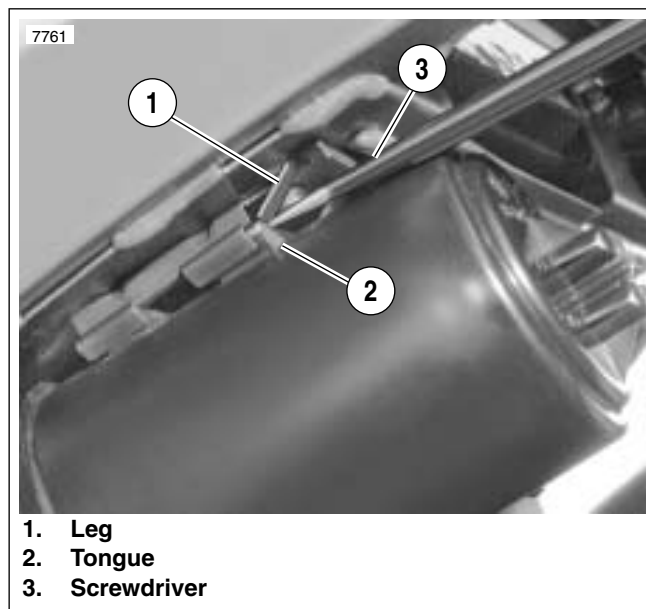

Figure 4-24. Push Up On Legs Of Bracket To Release Charcoal Canister
5. See Figure 4-24. Slide charcoal canister rearward until backside of tongue at top of canister just contacts two legs on bracket. Holding canister in position, use the tip of a large screwdriver to push up on outboard leg until it comes down to rest on top of tongue. Repeat procedure to release leg on inboard side of bracket.